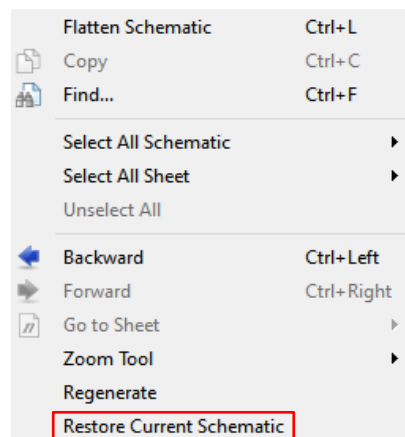

Figure 3.11. Restoring the Schematic View
- If you want the schematic back, right-click and select **Restore Current Schematic** as shown in Figure 3.11.